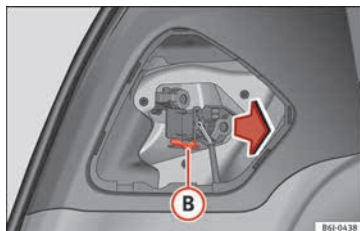

Fig. 112 Removing the bulb holder.
- Remove the bulb holder by pressing the fastening clip **(B)** » **Fig. 112** and pulling it outwards.